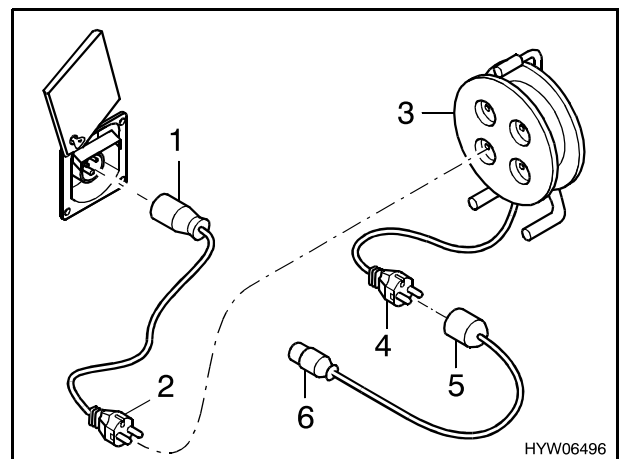

Fig. 128 Connection possibilities for 240 V power supply
- Tilt cover in an upward direction (Fig. 128).
CEE 17 socket with earth contact (Fig. 128,1) – plug with earth contact (Fig. 128,2).
Socket with earth contact (Fig. 128,3) – plug with earth contact (Fig. 128,4).
Socket with earth contact (Fig. 128,5) – CEE 17 plug with earth contact (Fig. 128,6).